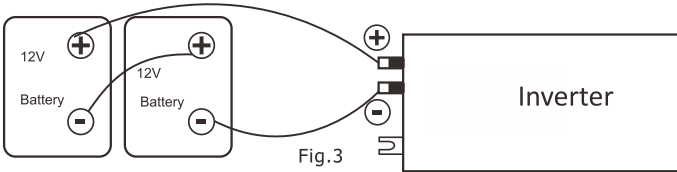

Fig.3
2) Multiple batteries in series connection(Refer to Fig.3):The sum of their voltages must be equal to the Nominal DC Voltage of the unit.All batteries must be equal in voltage and amp hour capacity.